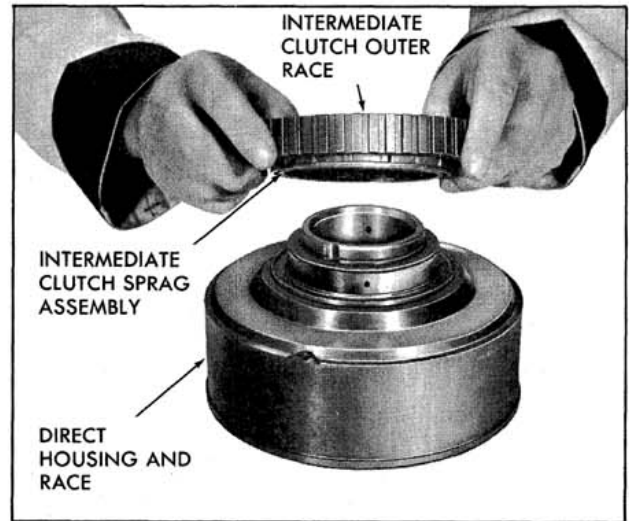

Fig. 6-169 Installing Intermediate Sprag
12. With ridge or shoulder on inner cage down, start sprag and outer race over inner race with clockwise turning motion. (Fig. 6-169)